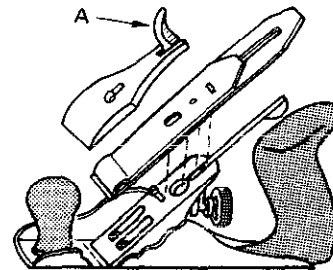

Fig. 8-17 Clamping the lever cap with the cam.
2. Place the lever cap over the lever cap screw, slide it down, and clamp the lever cap with the cam, A, figure 8-17.